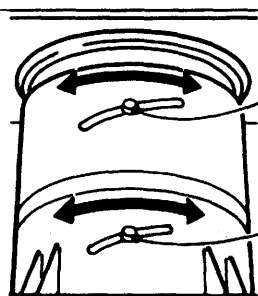

Figure 1
- 5) Adjust the neck assembly and deflection yoke (green) relative rotation angle mechanically as shown in Figure 1, and tighten the screw.